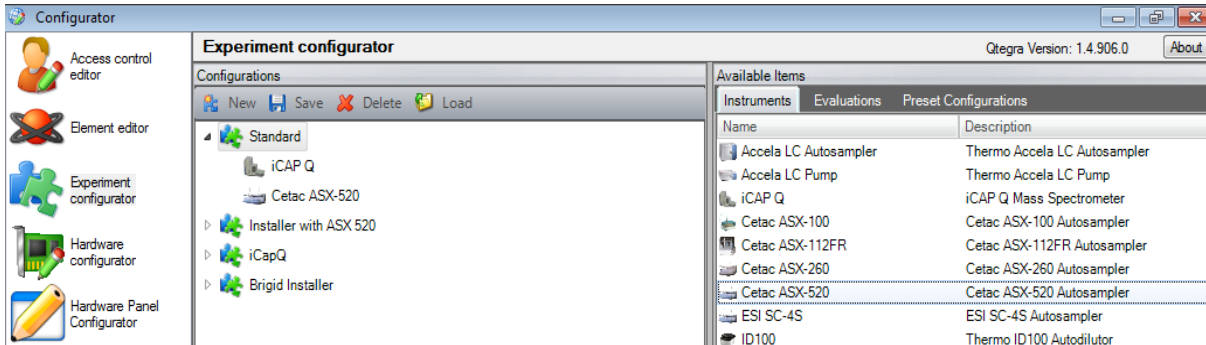

Figure 37: Configurator setup.
- Using Qtegra, open the **Configurator** program, select the **Experiment Configurator** tab, then select your current configuration. Next, drag and drop the **Cetac ASX-520** instrument into your configuration. See Figure 37 .